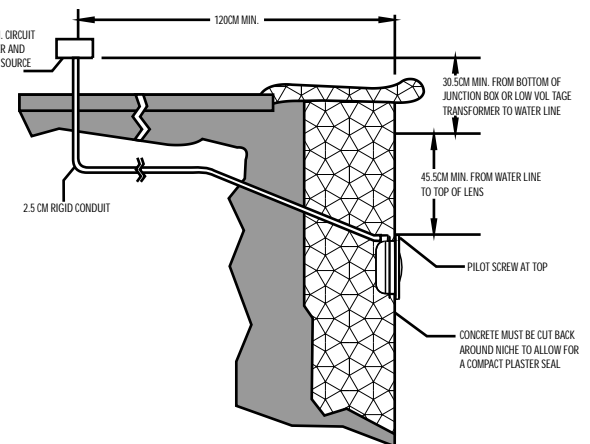

Figure 1.
Preparatory steps which must be completed by the electrician before light is installed, see Figure 1.
- a) The junction box, or the low voltage transformer for 12 volt Underwater Light model is to be located at least 120CM from the edge of the pool, see Figure 1.
- b) The mounting bracket must be properly installed so that the top edge of the Underwater Light lens is at least 45CM below the surface of the water in the pool, see Figure 1.
- 1) Locate position on a vertical wall where light is to be installed. The top of the light lens must be 45CM below normal water level, see Figure 1.